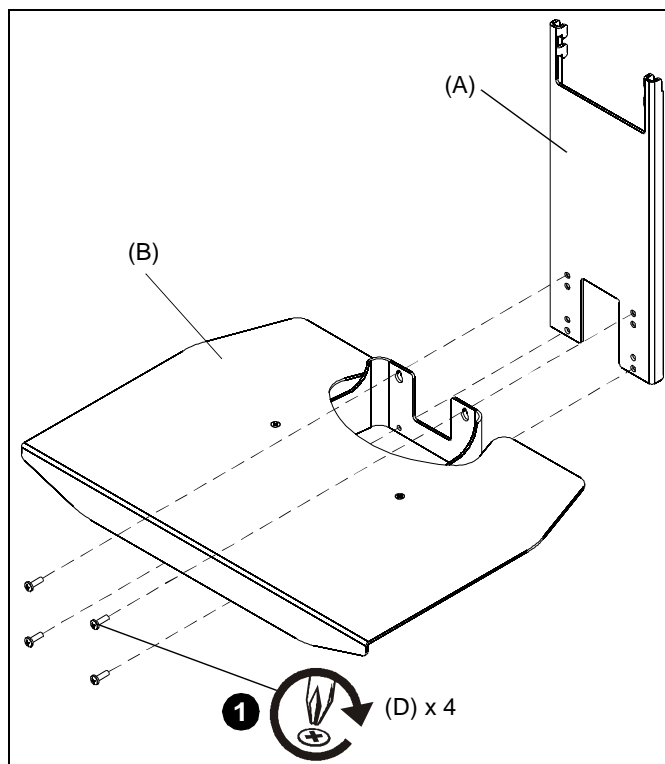

Figure 1
1. Attach lower shelf (B) to hanger bracket (A) using four 10-24 x 5/8" Phillips pan head screws (D). (See Figure 1)